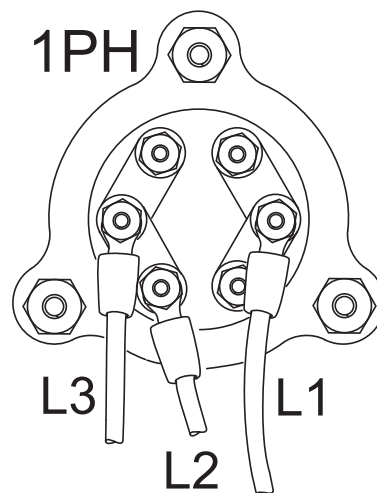

Fig. 17 - 1PH booster element connections
3. Install the jumper bars for 1PH as shown, Fig. 17.